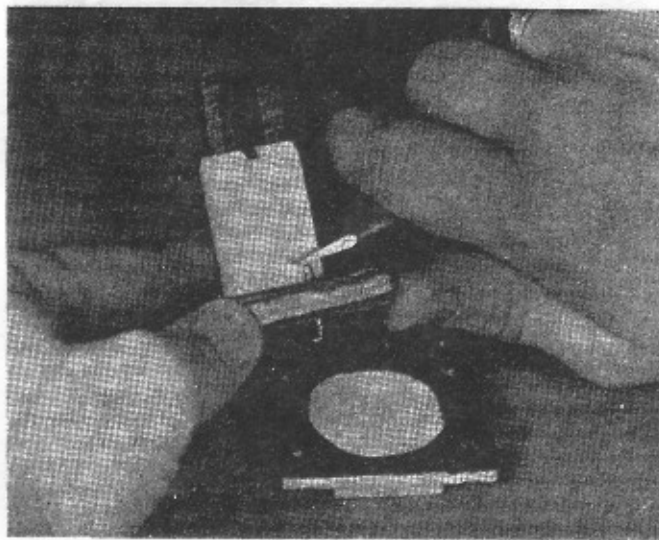

Figure 6
5. Remove brush holder and brushes. Inspect brushes and replace if they are burned, cracked, broken or worn to less than 3/16". Also if the spring or shunt is broken or burned, then brush must be replaced. Fig. 6.